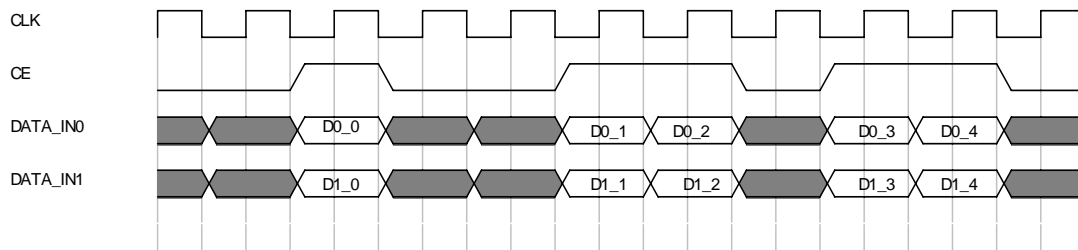

Figure 13: Data input with CE
The Clock Enable (CE) input is an optional input pin. When CE is deasserted (low), all the synchronous inputs (see Figure 13) are ignored and the core remains in its current state. The state of the core is frozen while CE is low.